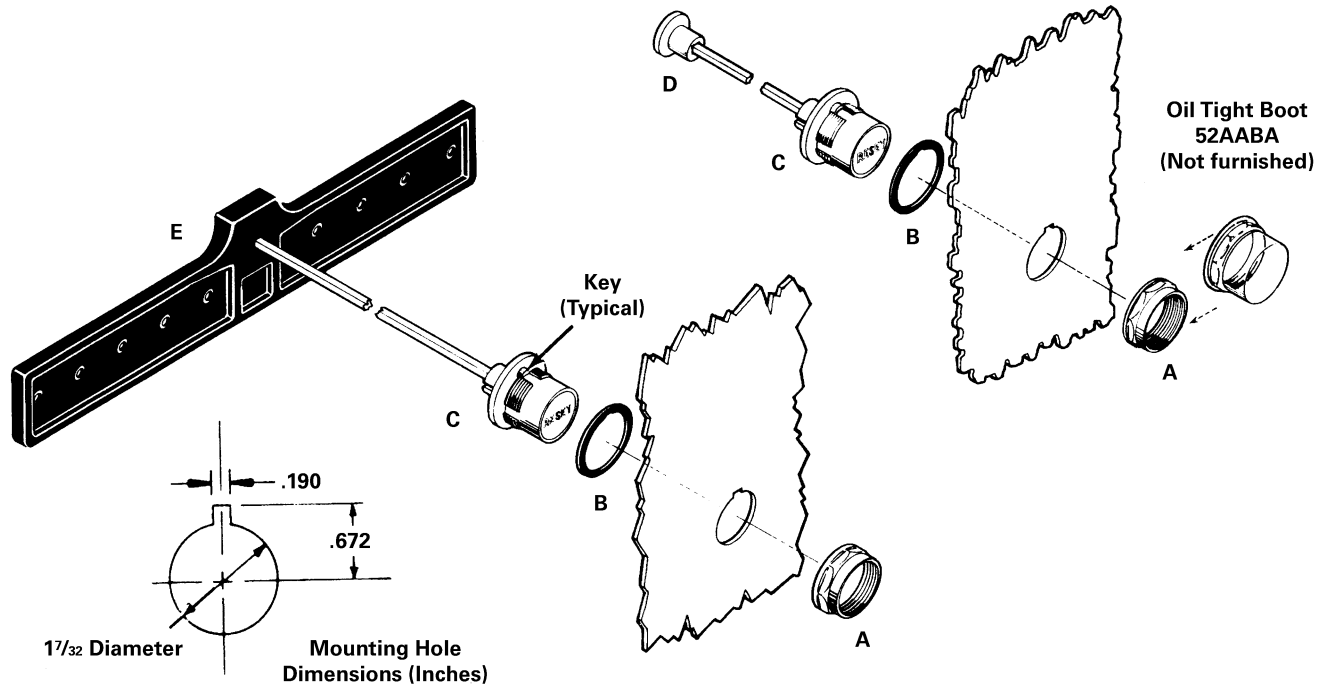

Figure 1
2. Mounting hole dimensions are shown in Figure 1. To cut $1\frac{1}{32}$ inch diameter hole, use a punch, such as Greenlee Knock-out Punch number 730-S. Then use a keyway punch, such as Greenlee number 730-K or 720, to cut the keyway. The keyway should be at the top of the hole for proper alignment of the engraved push button.